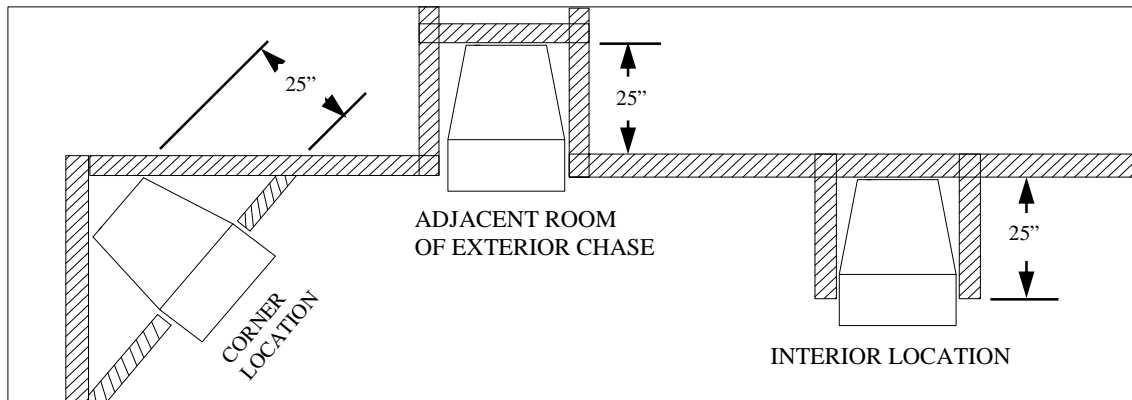

FIGURE 4
Above (Figure 4) are framing location examples with depth dimensions for some typical configurations. These are finished measurements so install accordingly.
2. Lay out location on the floor for ZC cabinet. (See Figure 4)